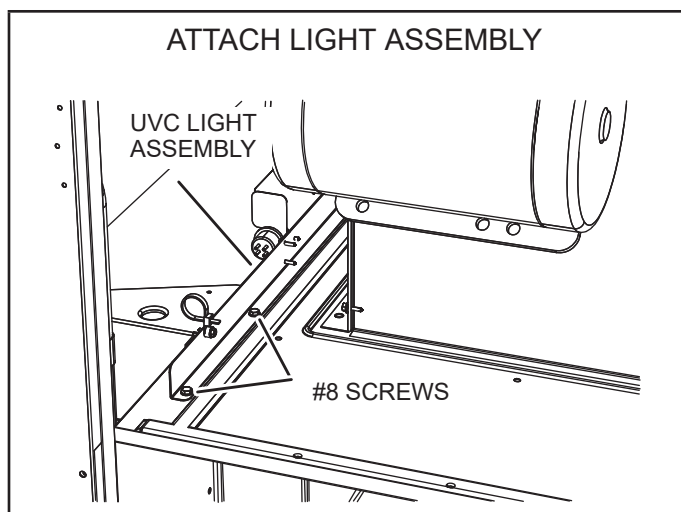

FIGURE 44
- 8 - Carefully place the UVC assembly on the blower deck. Line up the mounting holes on the UVC assembly with the mounting holes on the blower deck. See FIGURE 44. Use the #10 screws provided to attach the UVC assembly in place.